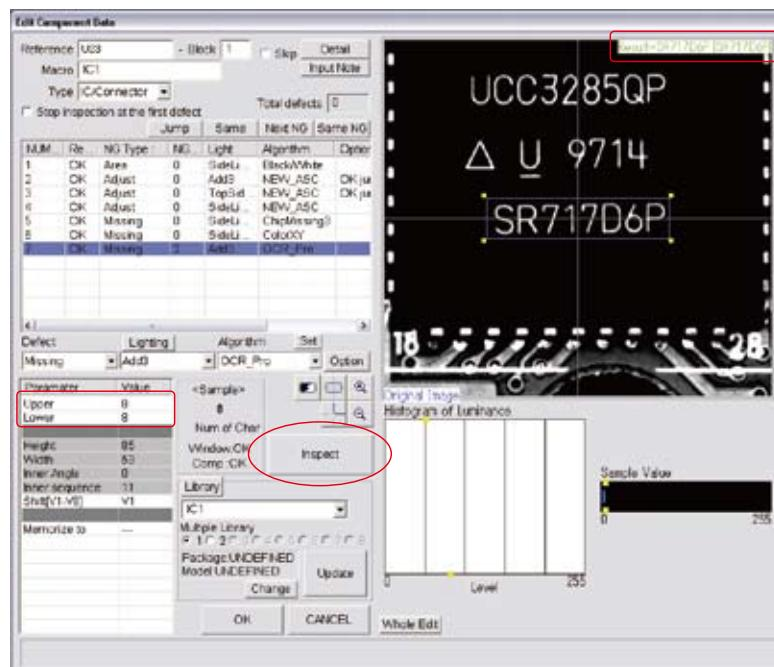

Figure 2-16 OCR_Pro15
Step19: The window shown in Figure 2-16 appears. Enter the number of characters to **Upper** field and **Lower** field.
Step20: Press **Inspect**. Check all target characters are correctly displayed in the upper right side of the window in Figure 2-16.